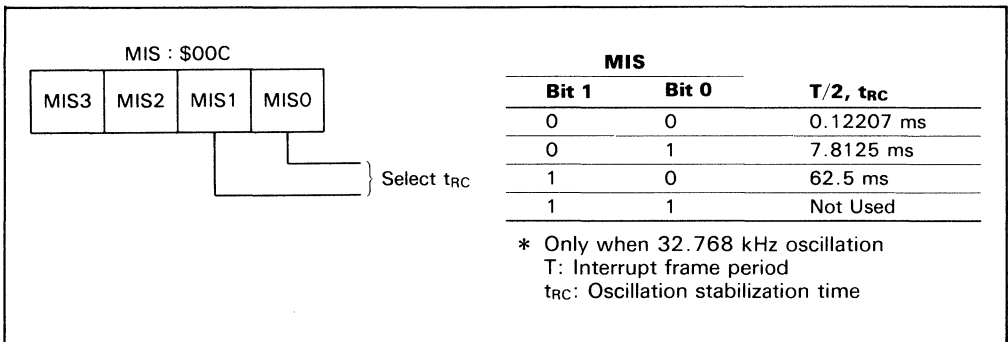

Figure 14. Miscellaneous Register
Interrupt Frame: In Watch mode and Sub Active mode, the time-base clock (ϕ_{CLK}) is applied to timer A and the \overline{INT}_0 circuit. Prescaler W and timer A operates as the time-base and generate the timing clock for the interrupt frame. The interrupt frame period (T) depends on the state of the miscellaneous register as shown in figure 14.